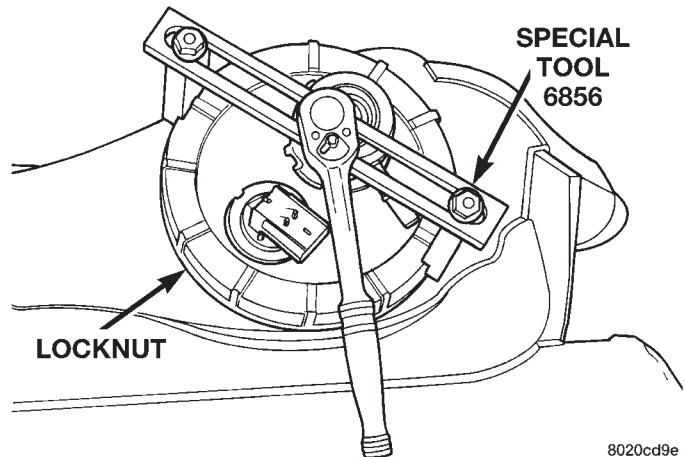

Fig. 48 Module Connector Retainer and Lock
(1) Disconnect negative cable from battery.
(2) Drain fuel tank dry into holding tank or a properly labeled **diesel** safety container.
(3) Raise vehicle on hoist.
(4) Use a transmission jack to support the fuel tank. Remove bolts from fuel tank straps. Lower tank slightly.
(5) Clean area around fuel reservoir module and tank to keep dirt and foreign material out of tank.
(6) Disconnect fuel lines from fuel module by depressing quick connect retainers with thumb and fore finger.
(7) Slide module electrical connector lock to unlock.
(8) Push down on connector retainer (Fig. 48) and pull connector off module.